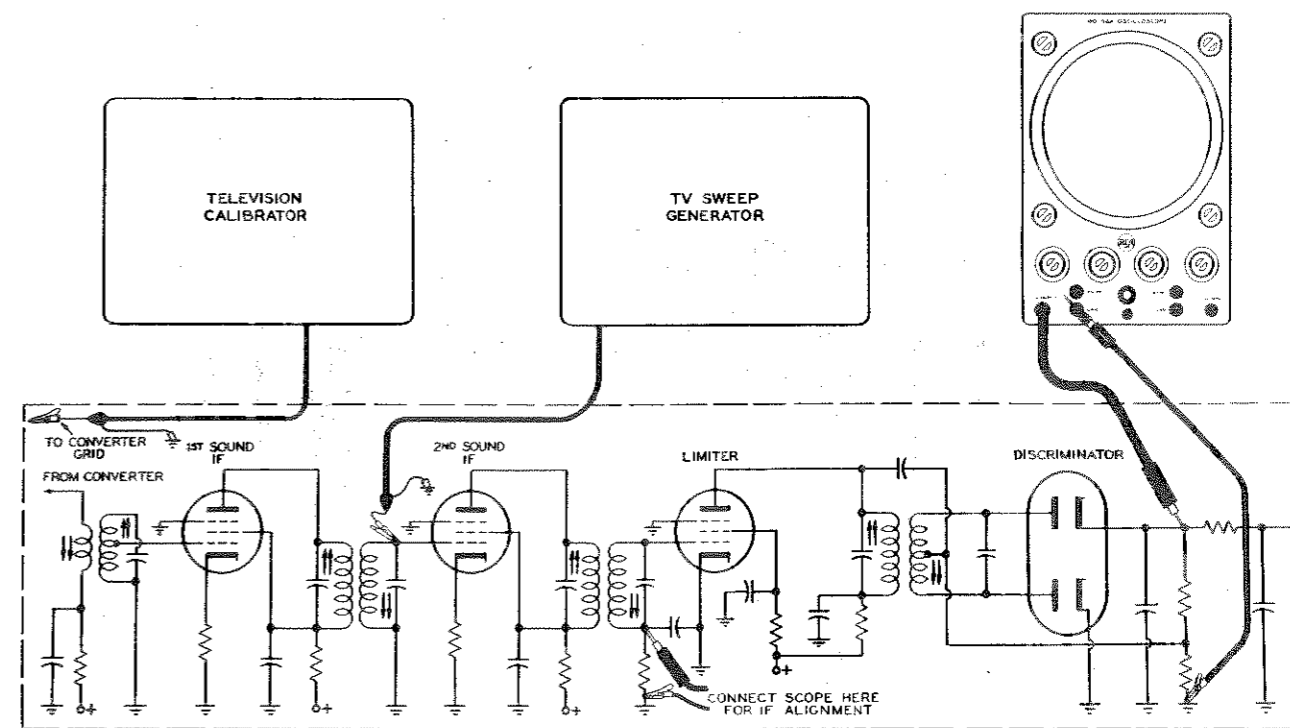

Figure 8. Setup for Alignment of Sound-IF Amplifier
A suggested alignment procedure is outlined below. The setup for this procedure is illustrated in Figure 8.
2. Connect the Direct Probe and Cable across the limiter grid resistor and to the oscilloscope, as indicated in Figure 8. If the sweep generator uses a sinusoidal sweep of line frequency, set the H GAIN selector on "LINE", and adjust the PHASE control to give a single pattern on the oscilloscope screen. If the sweep generator uses a sawtooth sweep, feed the sweep-voltage output of the generator to the horizontal-deflection terminals on the oscilloscope and set the H GAIN selector to a position which will give a horizontal deflection of convenient length.
Connect the output cable of the sweep generator to the if-amplifier input, and the Direct Probe and Cable and the Ground Cable of the WO-56A across the discriminator output. (See Figure 8.)